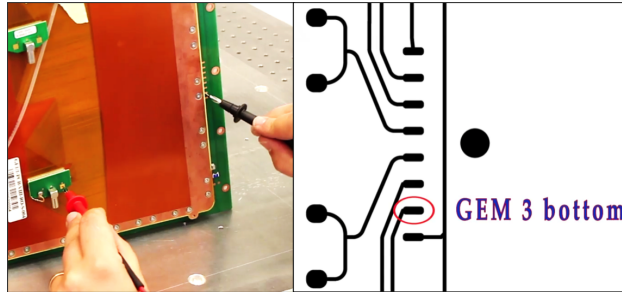

Figure 116: Testing the induction gap (2).
Step 9: Holding the chamber in a vertical position, apply 550 V between the GEM3 bottom and the signal pad of the Panasonic-to-Lemo adapter. The location of the GEM3 bottom pad is shown on Fig. 116 right. The impedance should immediately reach 100 G Ω .